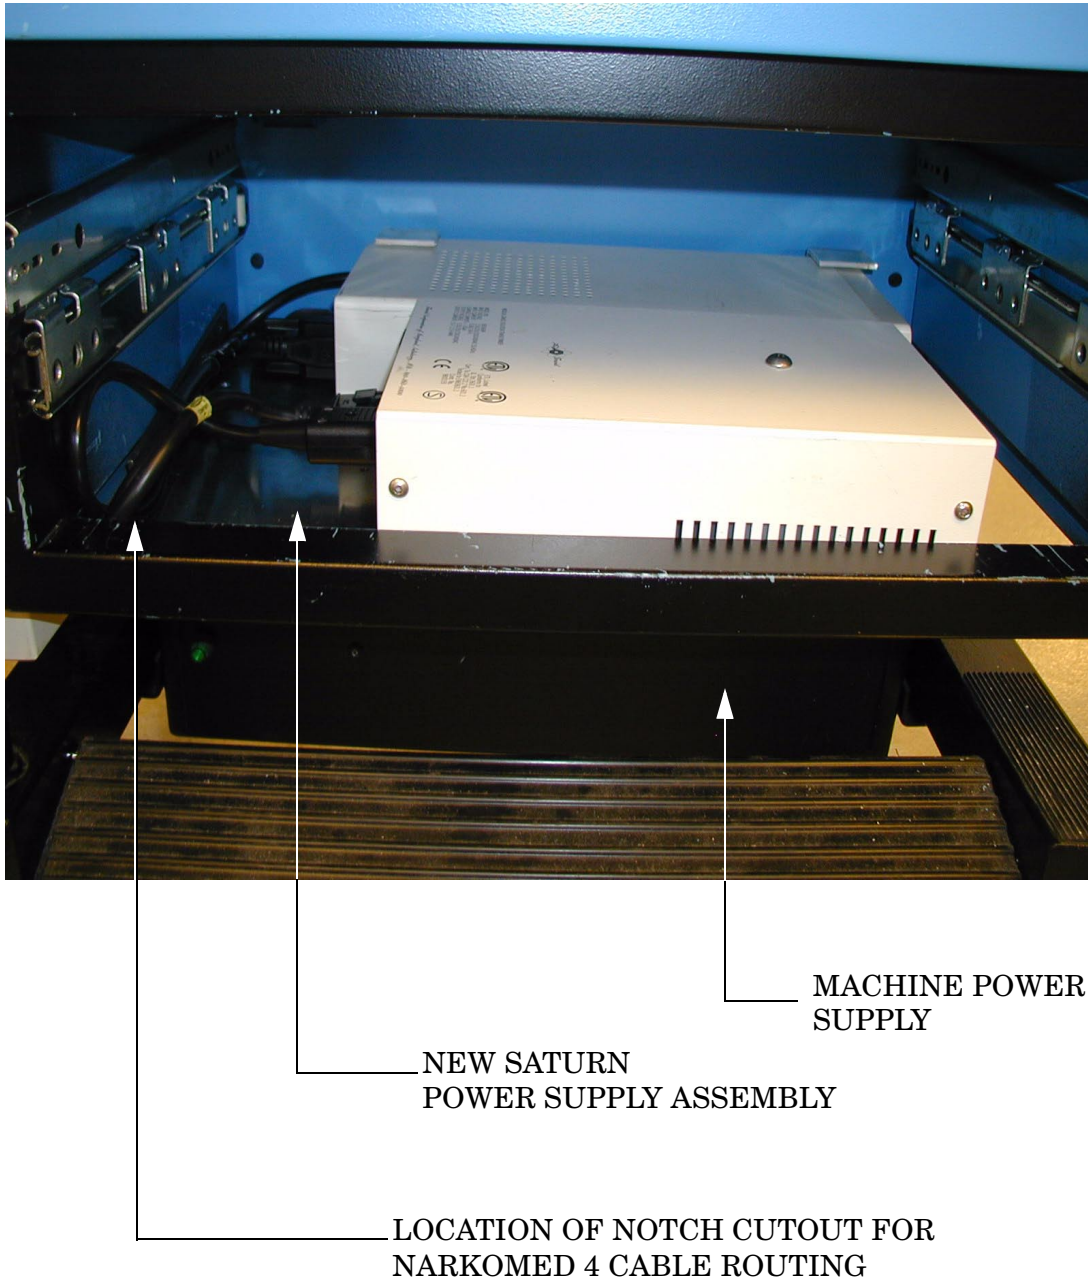

FIGURE 5. Replacement Saturn Power Supply Mounting Configuration on Narkomed 4, 3, and 2C
8. Using a standard allen wrench, attach the new Saturn power supply assembly using four button head screws and four lock washers. Ensure that A/C outlets are facing the left side of the machine. See Figure 5.